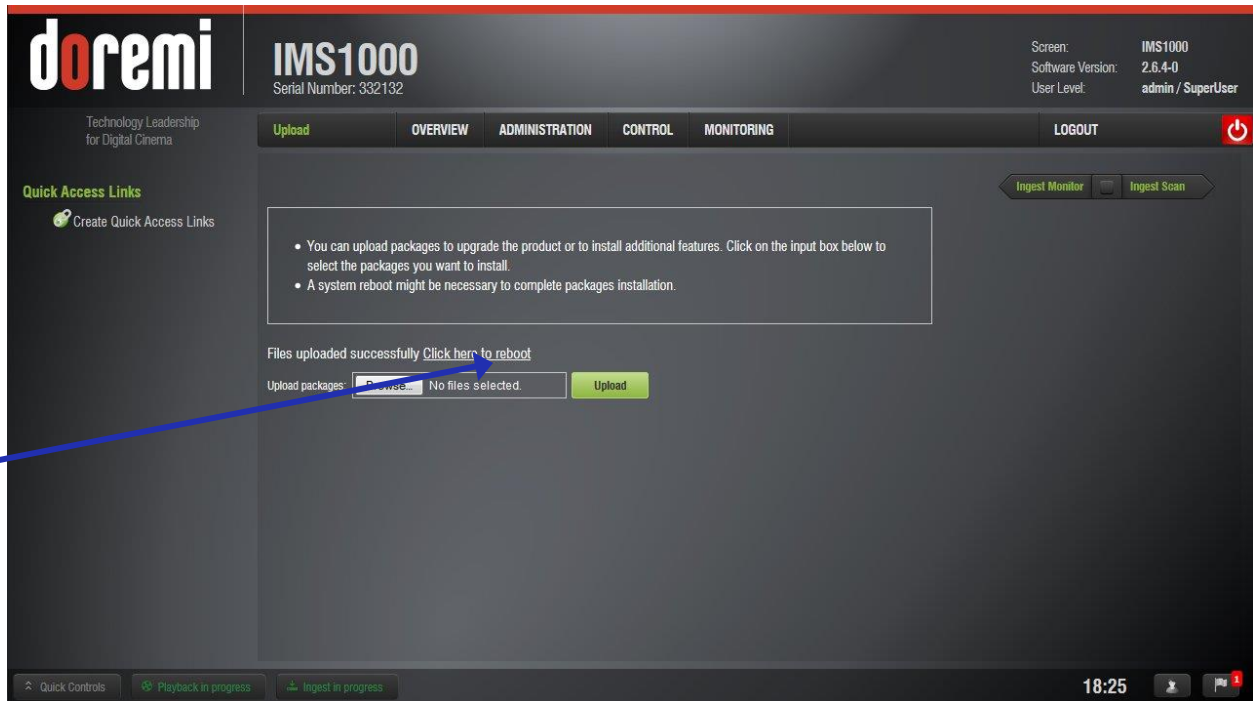

Figure 349: Upload Reboot
- When the file has been uploaded, you will be prompted to reboot the unit. Click the Reboot button (Figure 349).